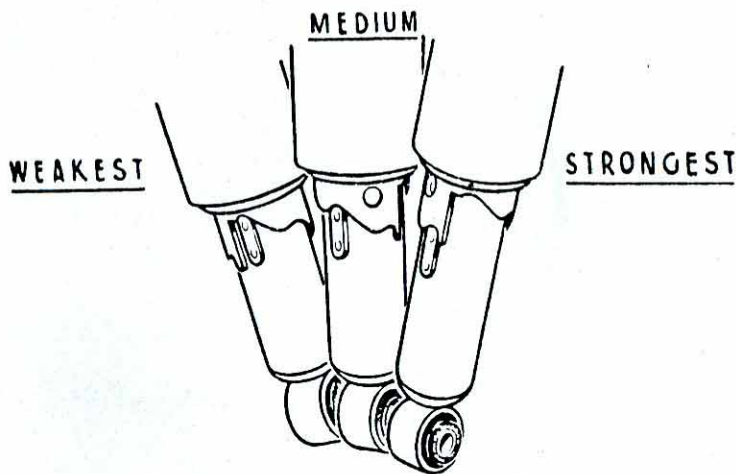

FIG. 8—SHOWING SHOCK ABSORBER ADJUSTMENT POSITIONS
**REAR SHOCK ABSORBER UNITS. ADJUSTMENT.** The rear shock absorber units are adjustable in three positions (see Fig. 8), by means of a key supplied in the tool kit. Machines leave the works with the units in the weak positions, i.e., normal solo setting. To adjust to a stronger position for pillion work rotate the lower portion in a clockwise direction until it clicks into the next position. Considerable effort will be required to effect the change over. It is, of course, important that both units are set in the same position.